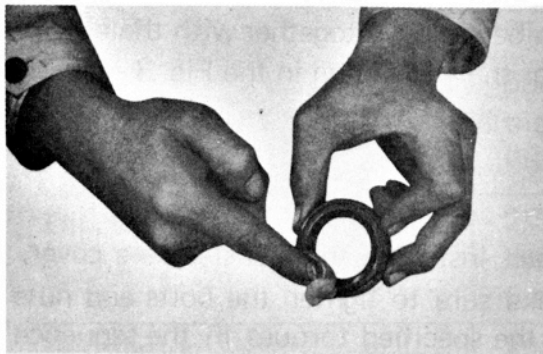

Fig. 3-18.
- 4) Carefully check the oil seal lip for damage and apply thin coat of grease before installation as shown in the Fig. 3-18.